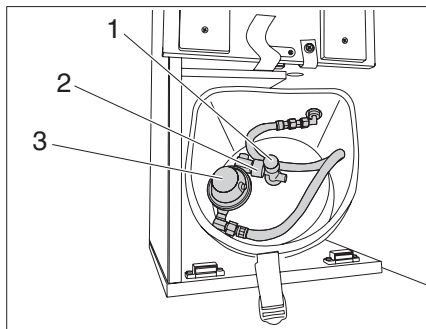

Fig. 60 Gas bottle connection
- ▶ Close the regulator tap (Fig. 60,1) on the gas bottle. Pay attention to the direction of the arrow.
- ▶ Hold the gas pressure regulator (Fig. 60,3) and open the knurled nut (Fig. 60,2) (left-handed thread).
- ▶ Position the gas pressure regulator (Fig. 60,3) and the gas tube on the gas bottle and tighten the knurled nut (Fig. 60,2) by hand (left-handed thread).